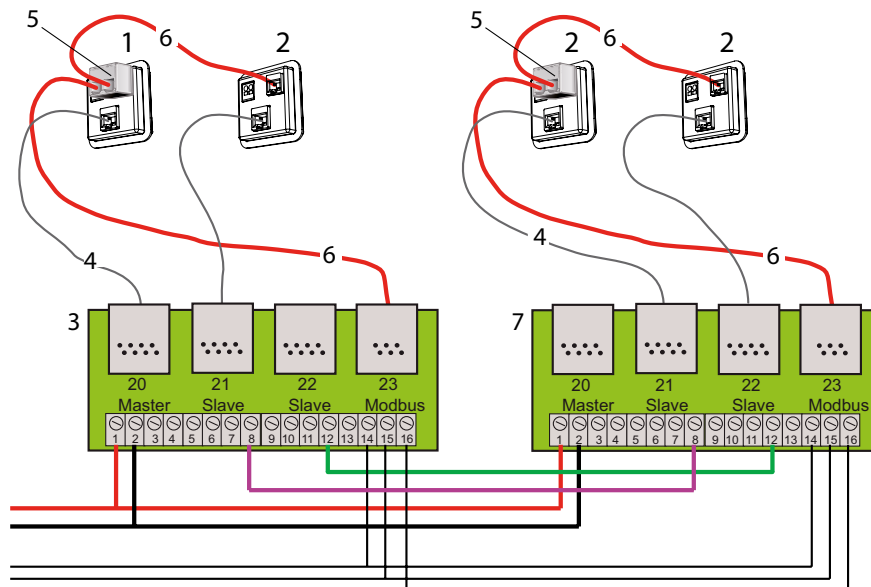

Figure 8. The wiring of several ADAPT via 2 CONNECT Adapt
N.B.! The Modbus stubs can be too long and cause communication problems. The recommended maximal permissible stub length per junction box is altogether 10 metres. If a longer LINK Modbus is required, install additional CONNECT Adapt for Modbus connection, Fig. 8. It does not matter which Modbus contact on the network the ADAPT product is connected to; its Modbus ID is the determining factor for how the product is shown in the main control system and Super WISE. If several CONNECT Adapt are used for connection, the control signals must also be wired further.